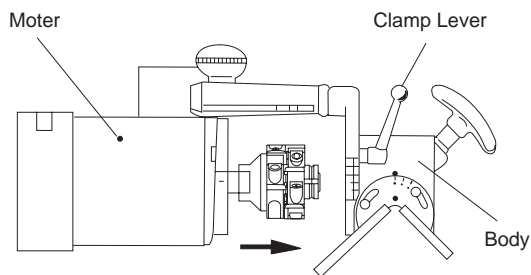

Fig.12
- (1) Separate the Motor Unit from the body as shown in Fig.12. (Remove the Clamp Lever and then remove Hex. Socket Head Bolt 8 x 30 on the back side for this purpose.)